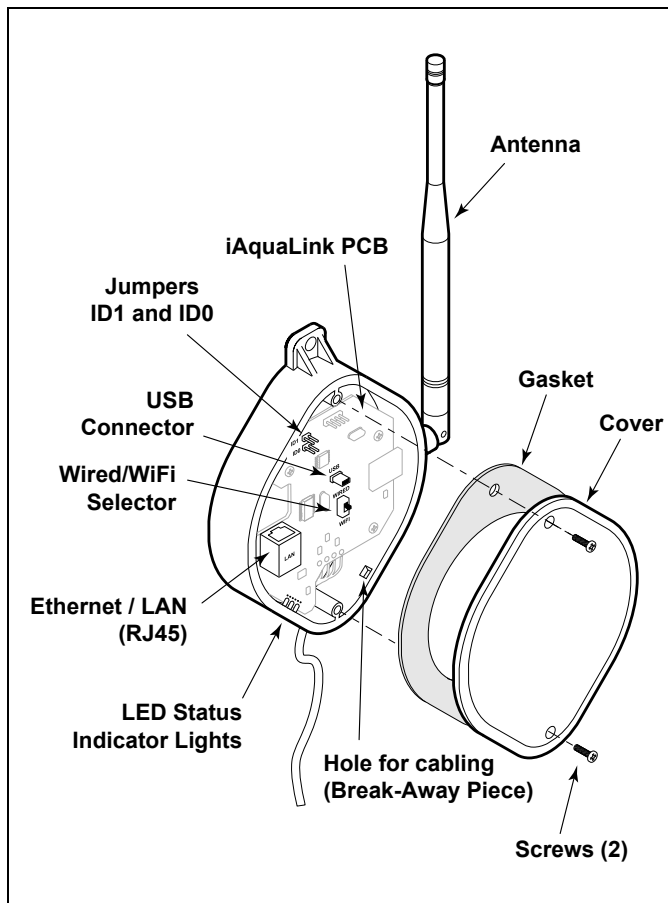

Figure 5. iAquaLink J-Box PCB Components
1. Remove the two (2) screws from the cover of the iAquaLink J-box. Remove the gasket and cover. See Figure 5.
1. Remove the two (2) screws that secure the cover and gasket on the iAquaLink J-box. Remove the gasket and cover. See Figure 5.
5. Reinstall the cover and gasket on the iAquaLink J-box with the two (2) screws previously removed.